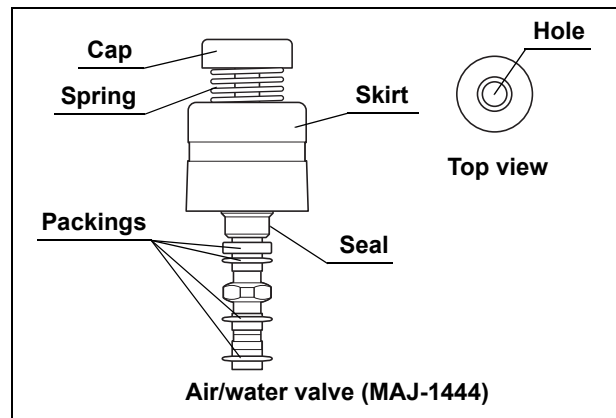

Figure 3.6
Confirm that the top hole of the air/water valve is not blocked (see Figure 3.6). If the hole is blocked, air is fed continuously and patient pain, bleeding, and/or perforation can result.
1. Confirm that the holes of the valves are not blocked (see Figures 3.6 and 3.7).
2. Confirm that the valves are not deformed or cracked (see Figures 3.6 and 3.7).
3. Check for excessive scratching or tears in the air/water valve’s seals (see Figure 3.6).